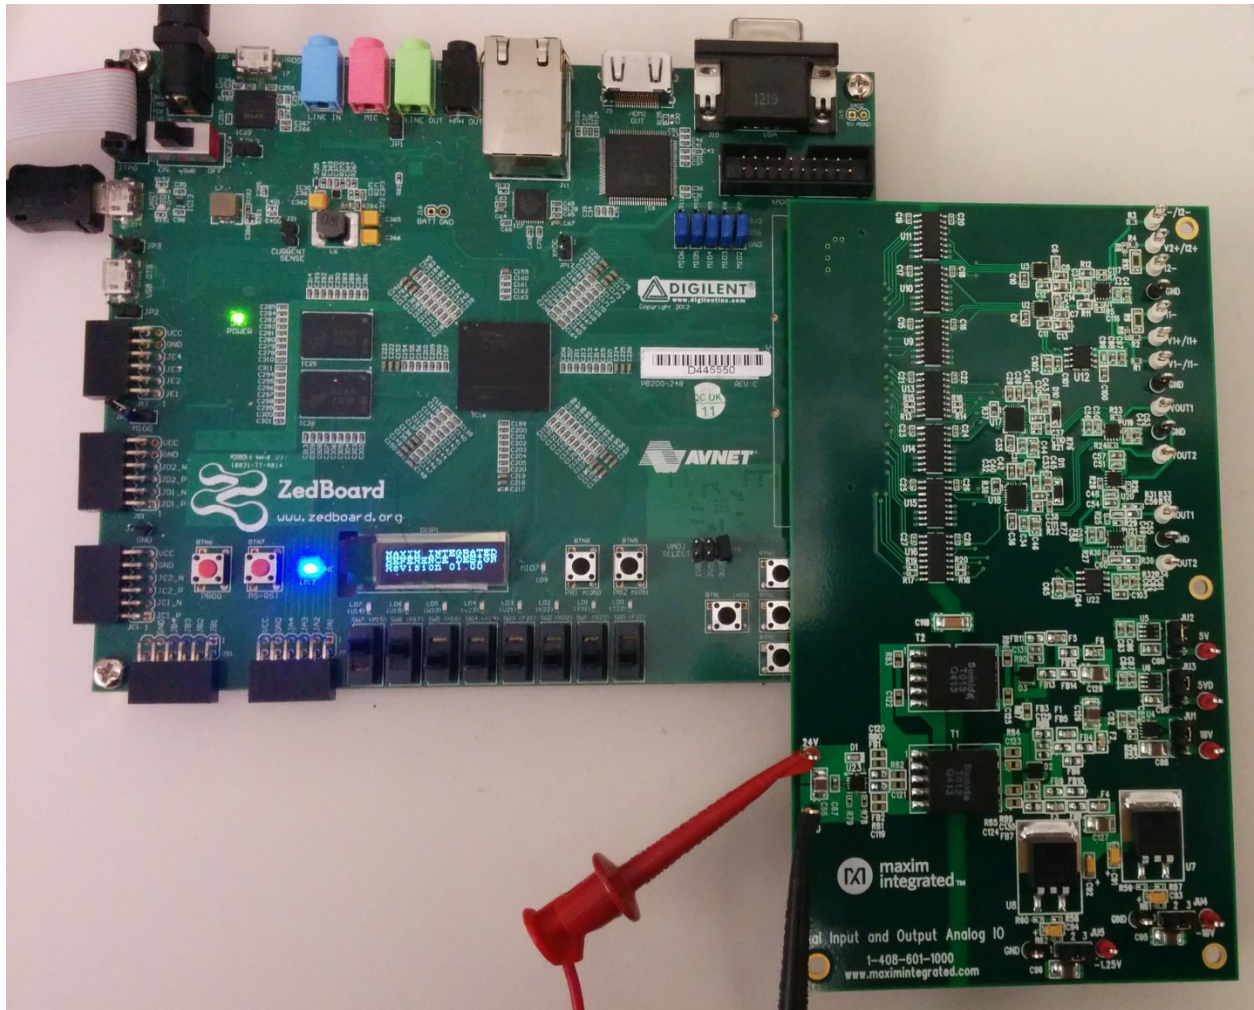

Figure 5. MAXREFDES71# Board Connected to ZedBoard Kit
- 7) Connect the MAXREFDES71# reference design board to the J1 FMC™ connector (Figure 5).
- 1) Connect the MAXREFDES71# board to the J1 FMC connector of a ZedBoard as shown in Figure 5.
4. Connect the MAXREFDES71# board to the J1 FMC connector of the ZedBoard as shown in Figure 5.